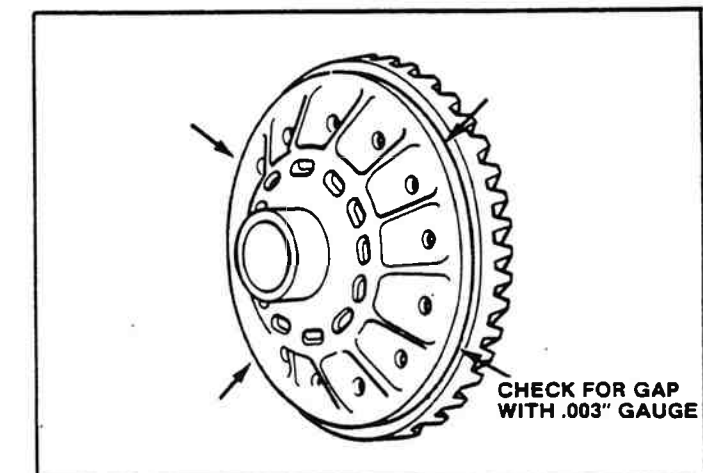

Figure 2-64. Checking Gap.
c. After the rivets are installed, check for gaps between the back surface of the ring gear and the case flange. Use a .003 inch (.08 mm) feeler gauge and check at four points around the assembly (Figure 2-64).